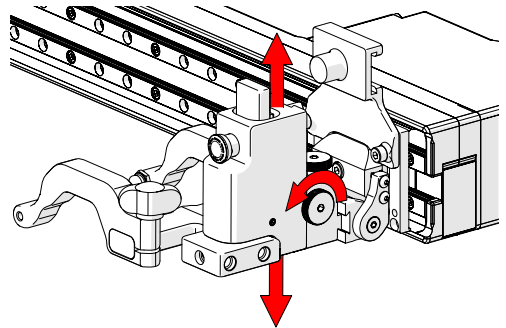

Fig. 120 - Vertical adjustment
4. The vertical adjustment knob (Fig. 120) allows the heavy duty vertical probe holder's height adjustment. This adjustment also controls the probe holders spring tension.